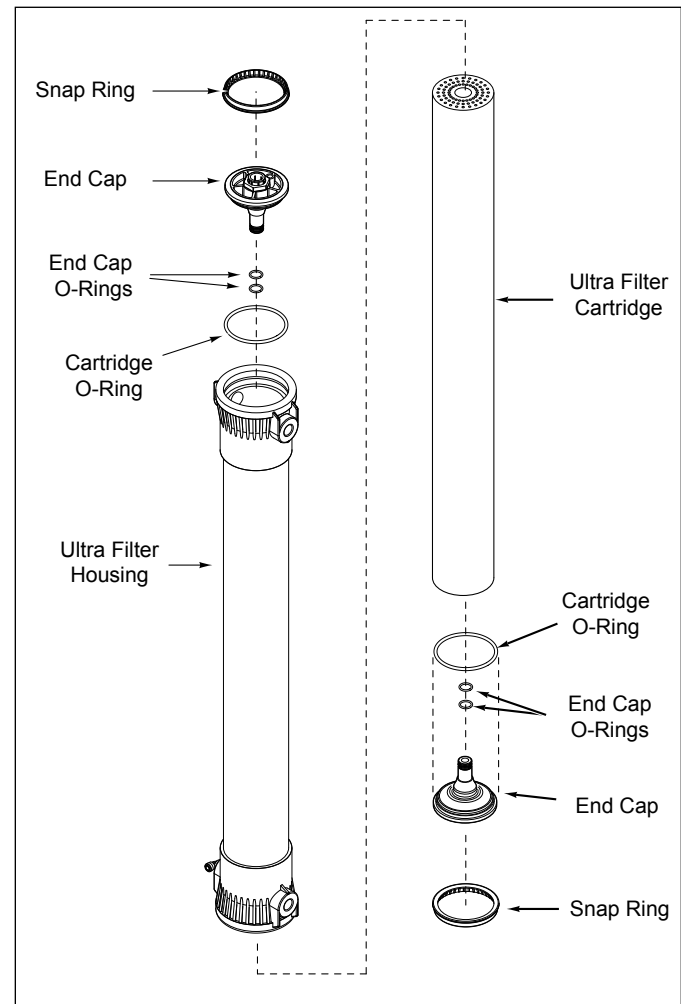

Figure 17. Replacing the Ultra Filtration Element
4. The lower End Cap, End Cap O-ring, and Cartridge should easily drop down out of the housing (Figure 17). If not, pull gently on the end cap to remove the cartridge.